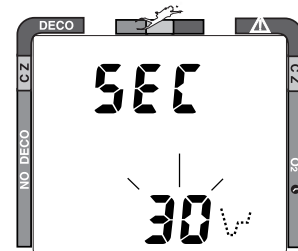

Fig. 23 - Set Sampling Rate
- the Sampling Rate value appears flashing (Fig. 23)